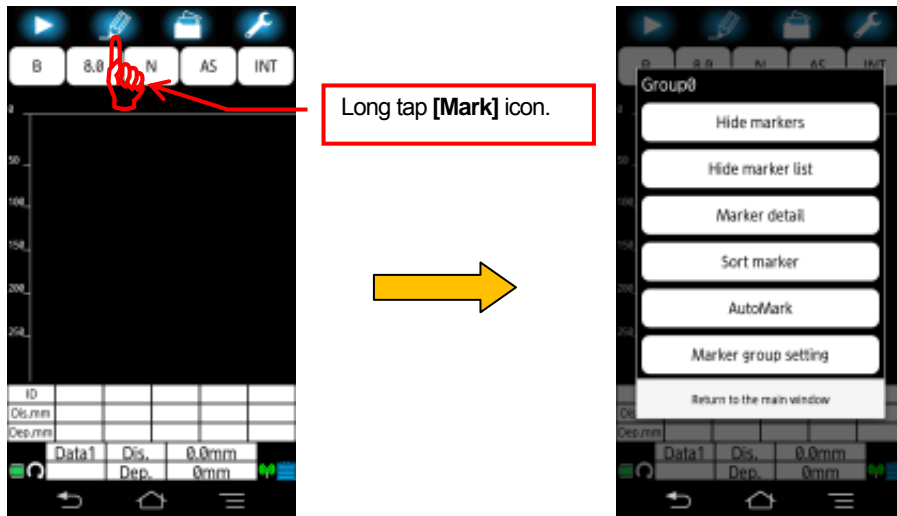
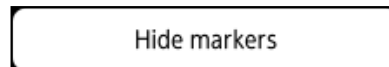
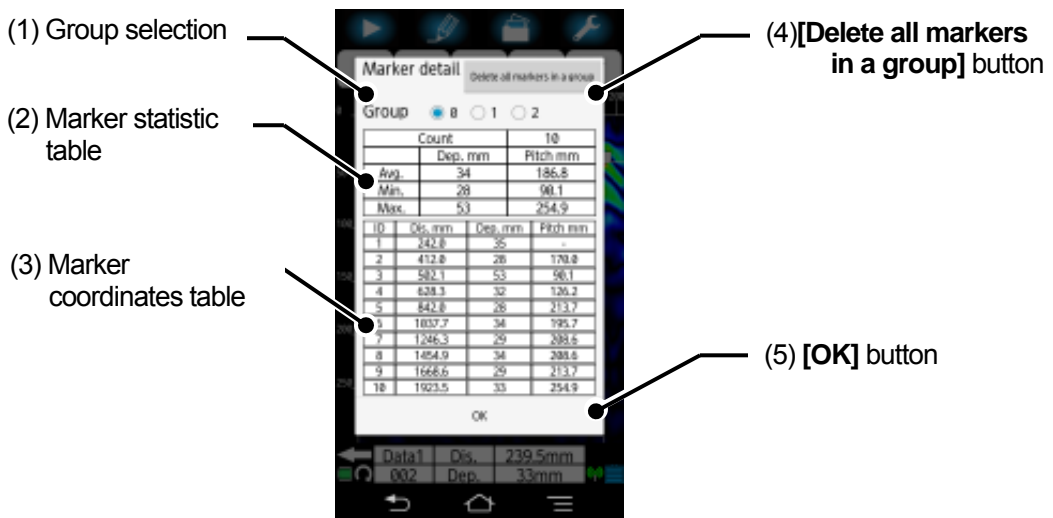

Figure 4-63 Marker operation screen
Figure 4-64 [Hide markers] menu
Figure 4-66 Marker details screen
Marker operation screen (Figure 4-63) allows you several marker operations: hide markers, Show marker list, Marker details, sort marker, AutoMark, and so on. You can access Marker Operation screen by long tapping the Marker Icon. This section describes operations available in the marker operation screen.
**[Hide markers]** menu (Figure 4-64) in the marker operation screen (Figure 4-63) allows you to hide all markers displayed on the scan result image. To hide all markers, tap **[Hide markers]** menu. To redisplay hidden markers, tap any position of B mode screen or the marker list. This function is helpful to see and confirm the part of the scan result image hidden by the displayed markers.
[Show marker list] / [Hide marker list] menu (Figure 4-65) in the marker operation screen (Figure 4-63) allows you to show/hide the marker list. When you want to see the scan result in the large screen, hide the marker list. When you want to confirm the coordinates of markers, show the marker list.
**[Marker details]** menu in the marker operation screen (Figure 4-63) allows you to show the marker details screen (Figure 4-66) which shows the detailed information (statistic, distance and depth of each marker, pitch between neighboring markers) of all markers registered in each marker group.
**[Sort marker]** menu in the marker operation screen (Figure 4-63) allows you to re-number the ID numbers of the registered markers as ascending or descending order. For more details of **[Sort marker]** menu, refer to 6.6 Sort marker. The following sortings are available.
**[AutoMark]** menu in the marker operation screen (Figure 4-63) allows you to execute the AutoMark function which automatically analyzes the scan data, detects the embedded object, and adds the marker on the detected object. For more details of AutoMark function, refer to Section 6.3 AutoMark function. You can specify the direction of the detection processing: Search from the start or Search from the end.
**[Marker group setting]** menu in the marker operation screen (Figure 4-63) allows you to select a marker group into which newly added markers are registered. The available marker group are Group 0 to 2. The marker IDs of 1 to 99 are allocated to Marker group 0, the IDs of 101 to 199 to Marker group 1, and the IDs of 201 to 299 to Marker group 2.